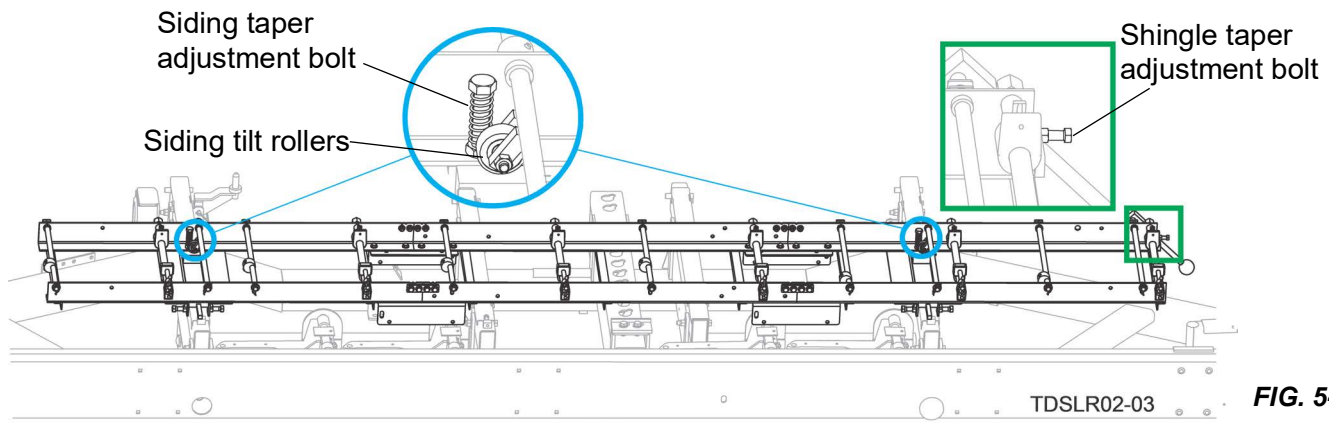

FIG. 5-1
2. Position the **siding** taper adjustment bolts fully down (clockwise) until you can spin the siding lift rollers by hand. See FIG. 5-1.
2. Adjust the **shingle** taper adjustment bolt to 1/4". See FIG.5-1, Section SECTION 5 Shingle Operation.